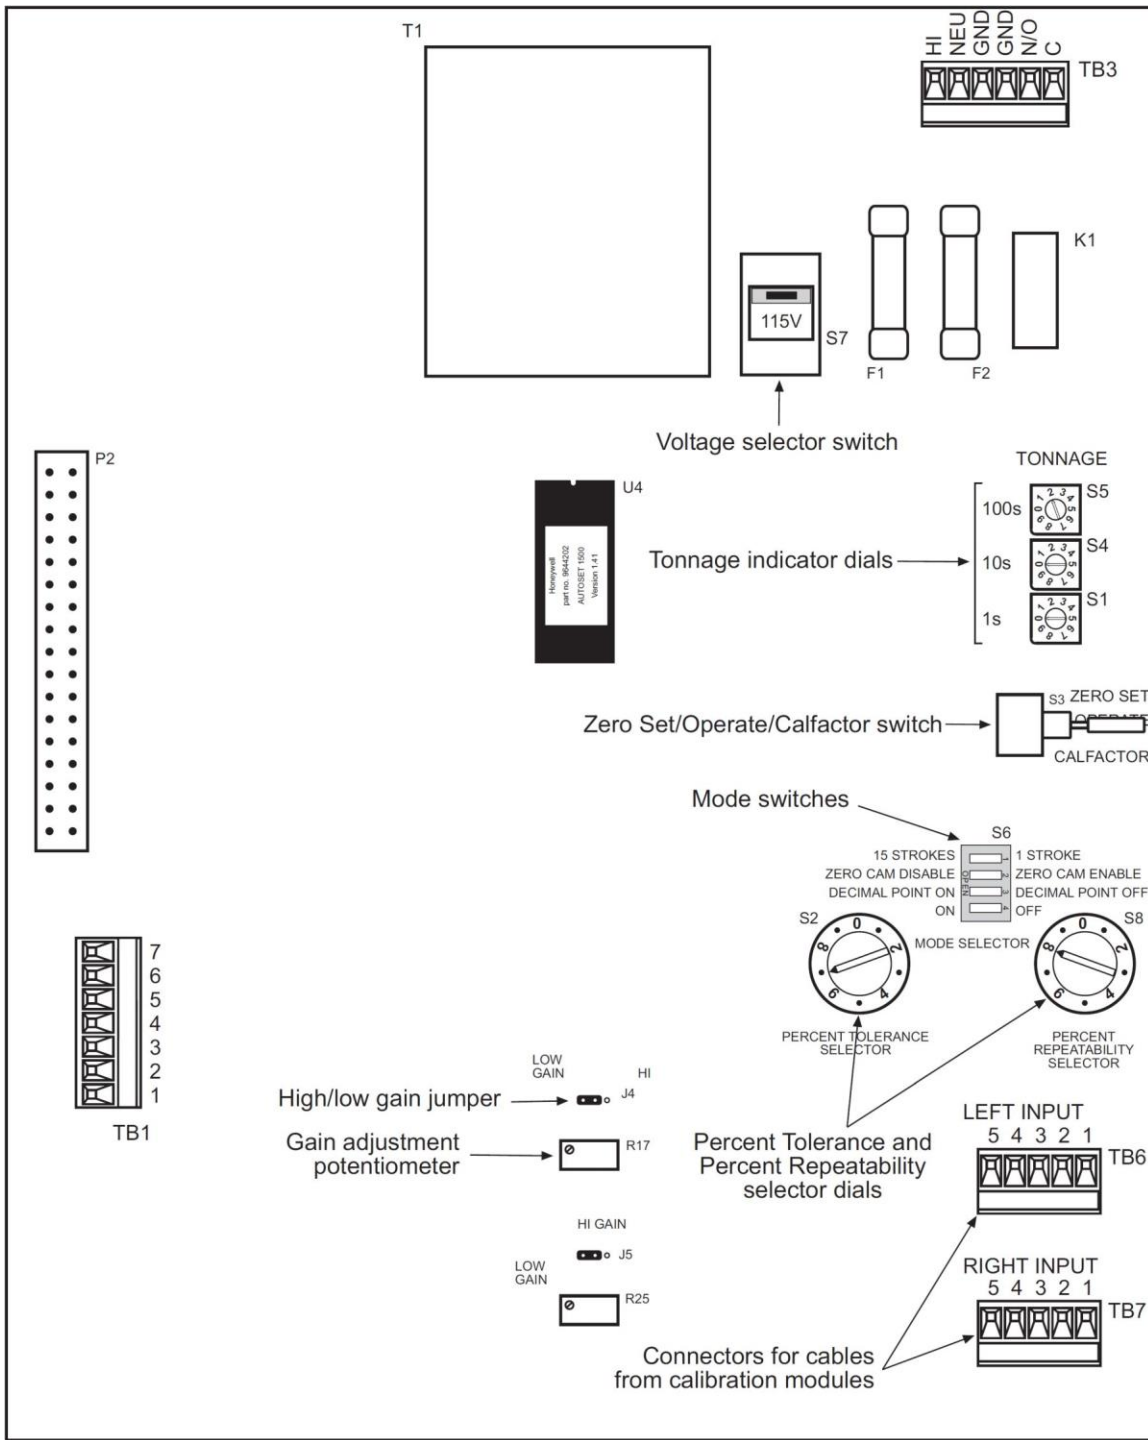
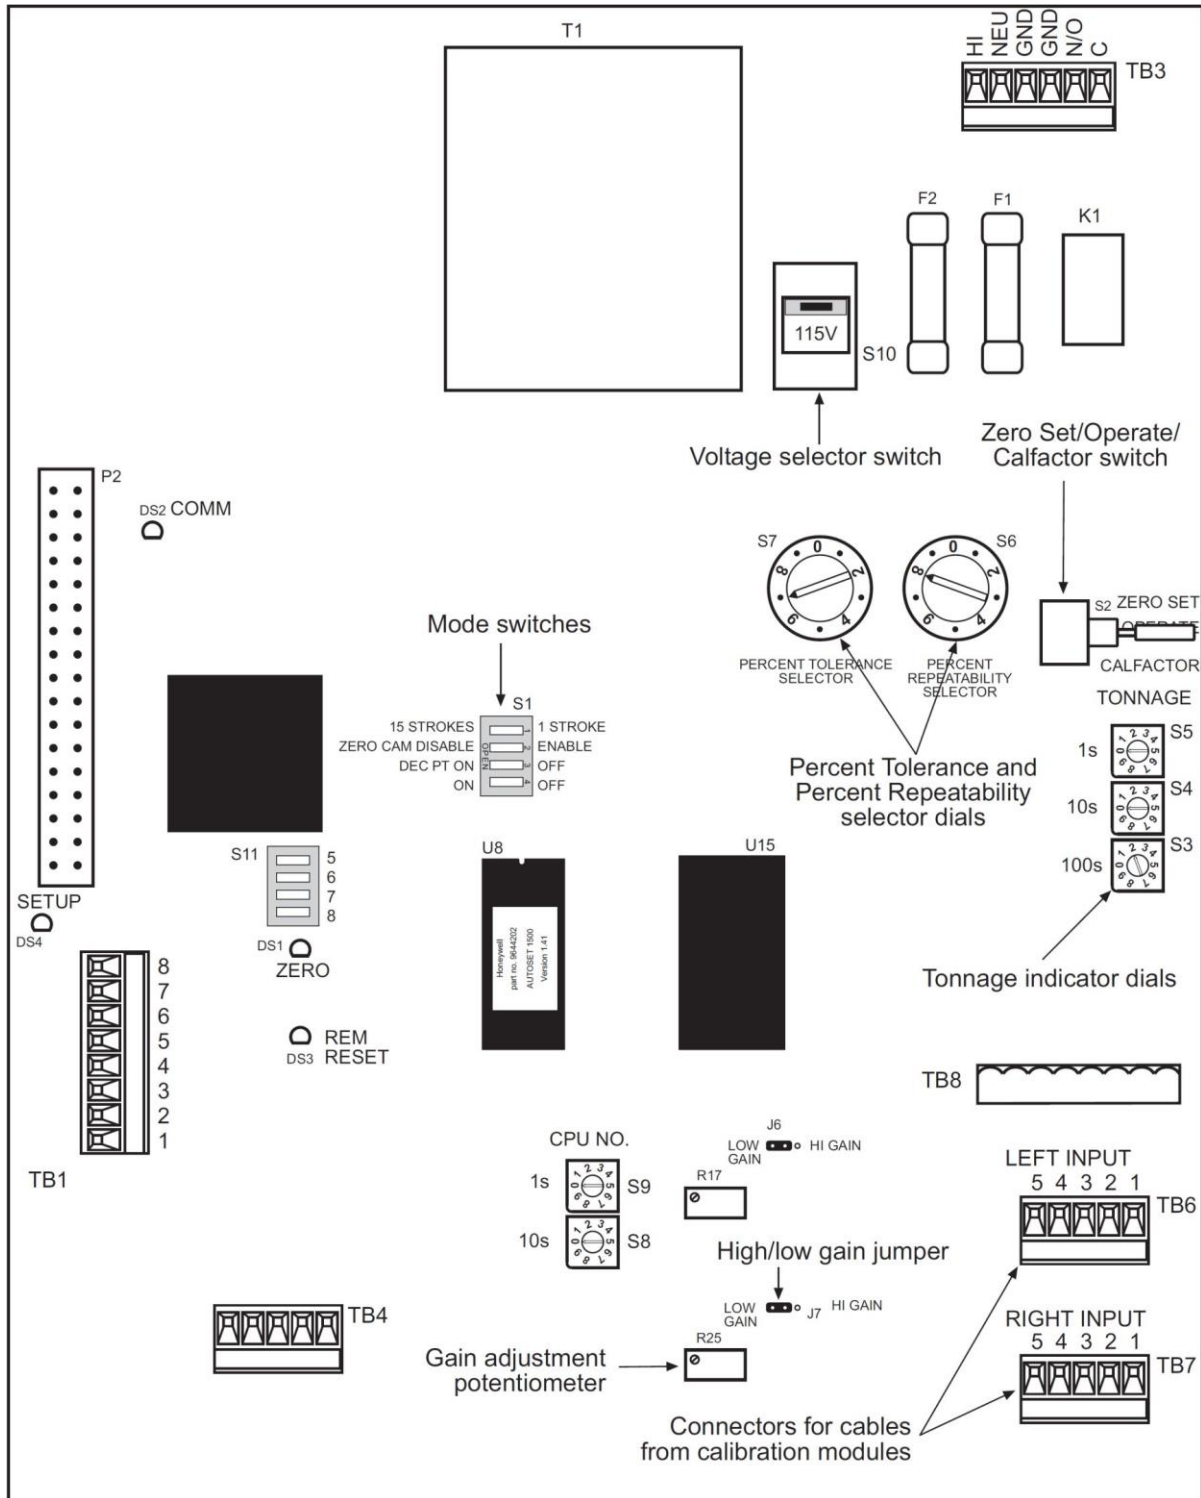
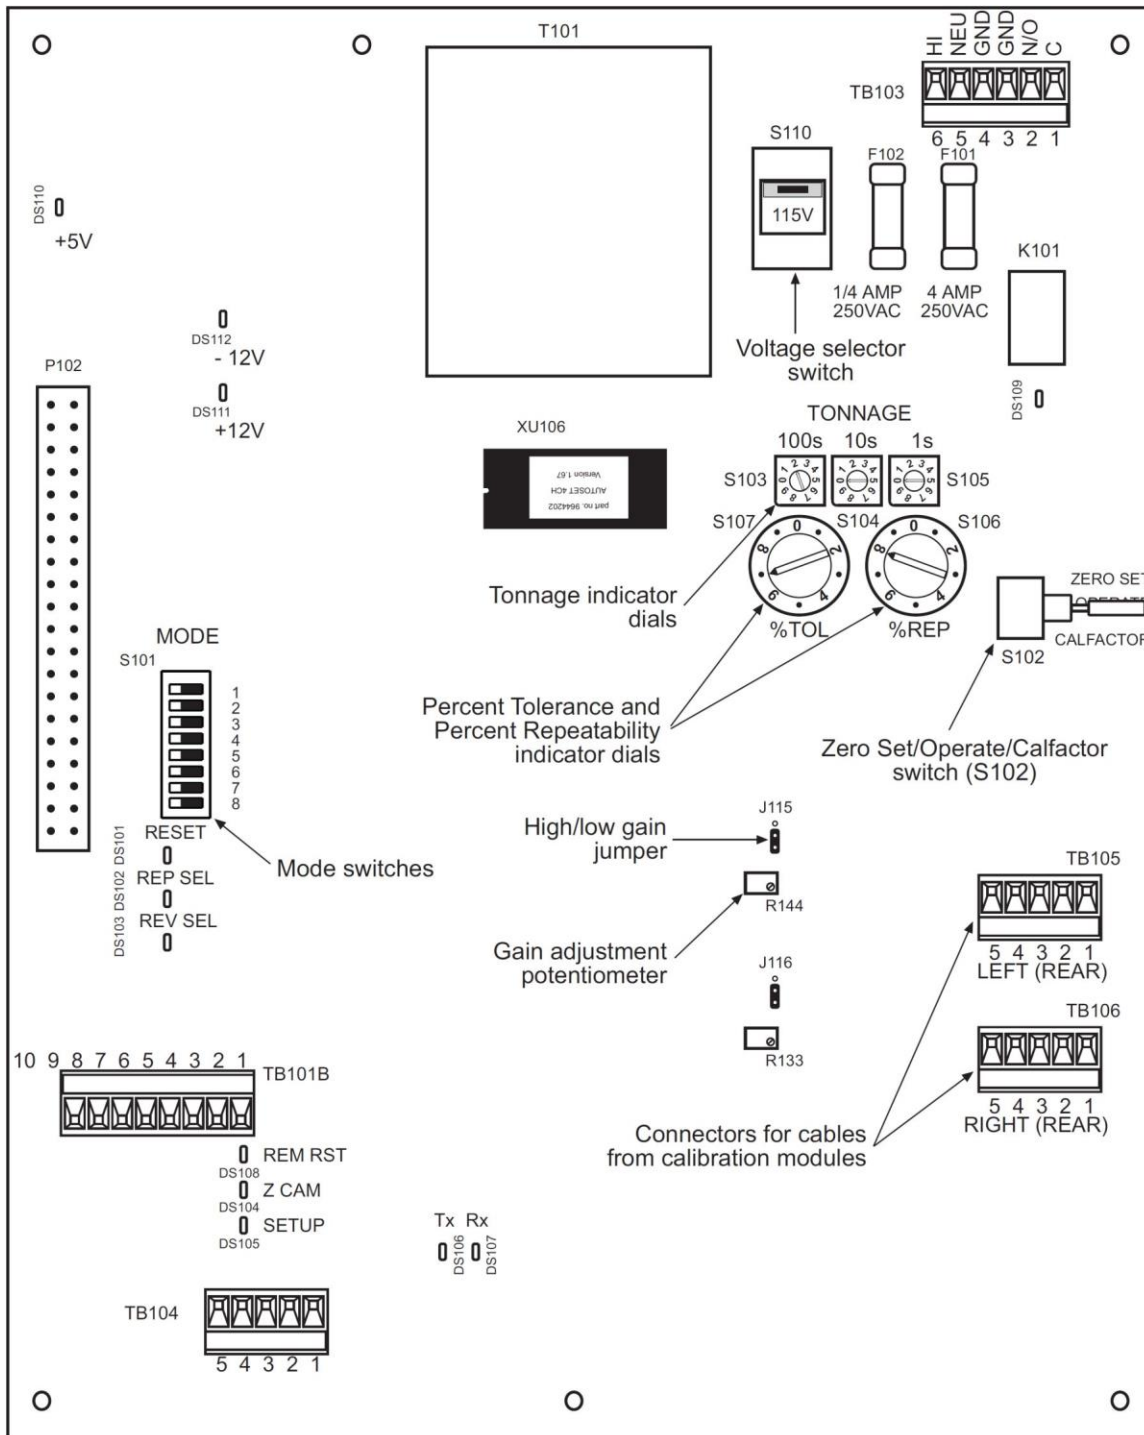
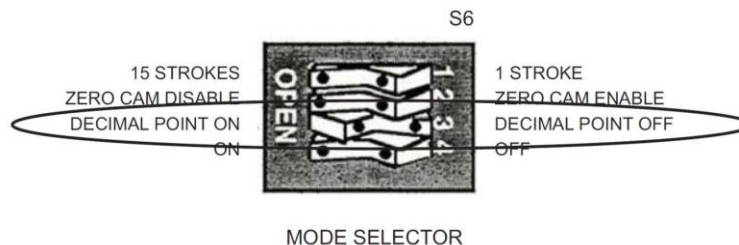

Figure 3-15. AutoSet 2-Channel Calibration Kit Processor Board: Old Style
Figure 3-16. AutoSet 2-Channel Calibration Kit Processor Board: New Style
Figure 3-17. AutoSet 2-Channel Calibration Kit Processor Board: AutoSet V2.0 Board
Figure 3-19. Mode Switch #3 Set to “Decimal Point Off” Position (Old-style Processor Board)
To adjust the calibration kit to display the correct tonnage applied to the load cells, perform the following steps, referring to Figure 3-15, page 77, or Figure 3-16, page 78, for location of components on old- and new-style AutoSet processor boards. If your AutoSet calibration kit has the current version 2.0 processor board installed, refer to Figure 3-17, page 79.
6. If the displays are not active, turn off power to the AutoSet. Re-check the connections for power and strain links. Make sure that the voltage selector switch (S7 in Figure 3-15, S10 in Figure 3-16) is set correctly (either 115V or 230V), and switch S3 (Figure 3-15) or S2 (Figure 3-16) is
7. Locate the dial indicators labelled “TONNAGE” (S1, S4, and S5 in Figure 3-15, S3, S4, and S5 in Figure 3-16) on the right side of the AutoSet processor board.
AutoSet Load LED displays format tonnage readings based on two factors: the full-scale tonnage you have specified on the dial indicators and the position of switch #3 on the Mode switch block (S6 in Figure 3-15, S1 in Figure 3-16). Figure 3-19, page 80, shows the Mode switch block on old-style AutoSet 2-Channel calibration kit processor boards. The switch block on new-style boards is identical but labelled differently.
10. Set Mode switch #3 for the display option you want, referring to Figure 3-19 and Table 3-3.
12. Move the lever on the three-position switch labelled “S3” on old-style boards (see Figure 3-15) or “S2” on new-style boards (see Figure 3-16) to the “ZERO SET” position, and check the channel Load LED displays on the AutoSet front panel.
16. Move the lever on switch S3 or S2 to the “OPERATE” position. Both left and right channel Load LED displays should now read zero (0) tons.
17. Locate the Percent Tolerance Selector dial, labelled “S2” on old-style boards (see Figure 3-15), “S7” on new-style boards (see Figure 3-16).
Locate the Percent Repeatability Selector dial, labelled “S8” on old-style boards (see Figure 3-15), “S6” on new-style boards (see Figure 3-16).